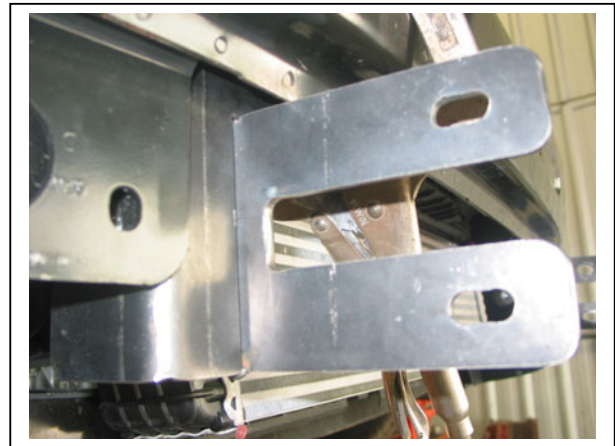
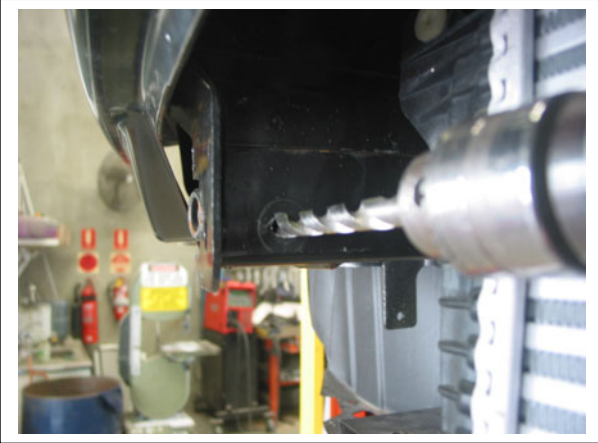

Figure 2: Placement of ECB steel mount. Drivers side shown. Pull forward as far as possible.
Figure 3: Mark and drill inner crash can to 10mm
5. On drivers side: Place ECB steel mount behind bumper support to the inside of crash can as high as possible. **See figure 2.** Mark and drill hole on the inside of the crash can. **See figure 3.** At point directly under drilled hole on underside of crash can, drill second hole and enlarge to accept 3/8 bolt and washer. **Blow filings clear and treat all exposed metal with a rust inhibitor.** Fit 3/8 x 1 1/4 bolt on wire, flat washer, spring washer and nut to pre drilled hole. **Finger tighten only.** Cut off wire tails and crimp onto crash can.